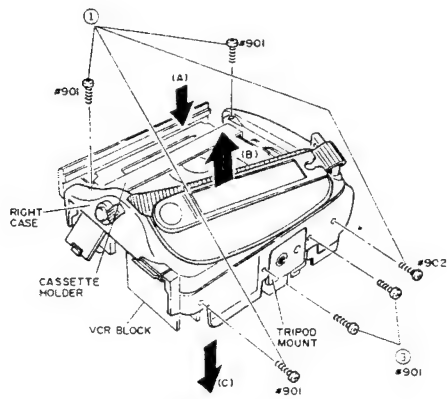

Fig. 2-27
- 1) Remove four (4) screws holding the right case. (See Fig. 2-27)
- 2) Remove the right case from the VTR block in the direction of arrow (B) while pushing the cassette holder in the direction of arrow (A).
- 3) Remove two (2) screws holding the tripod mount.
- 4) Remove the tripod mount from the right case in the direction of arrow (C).